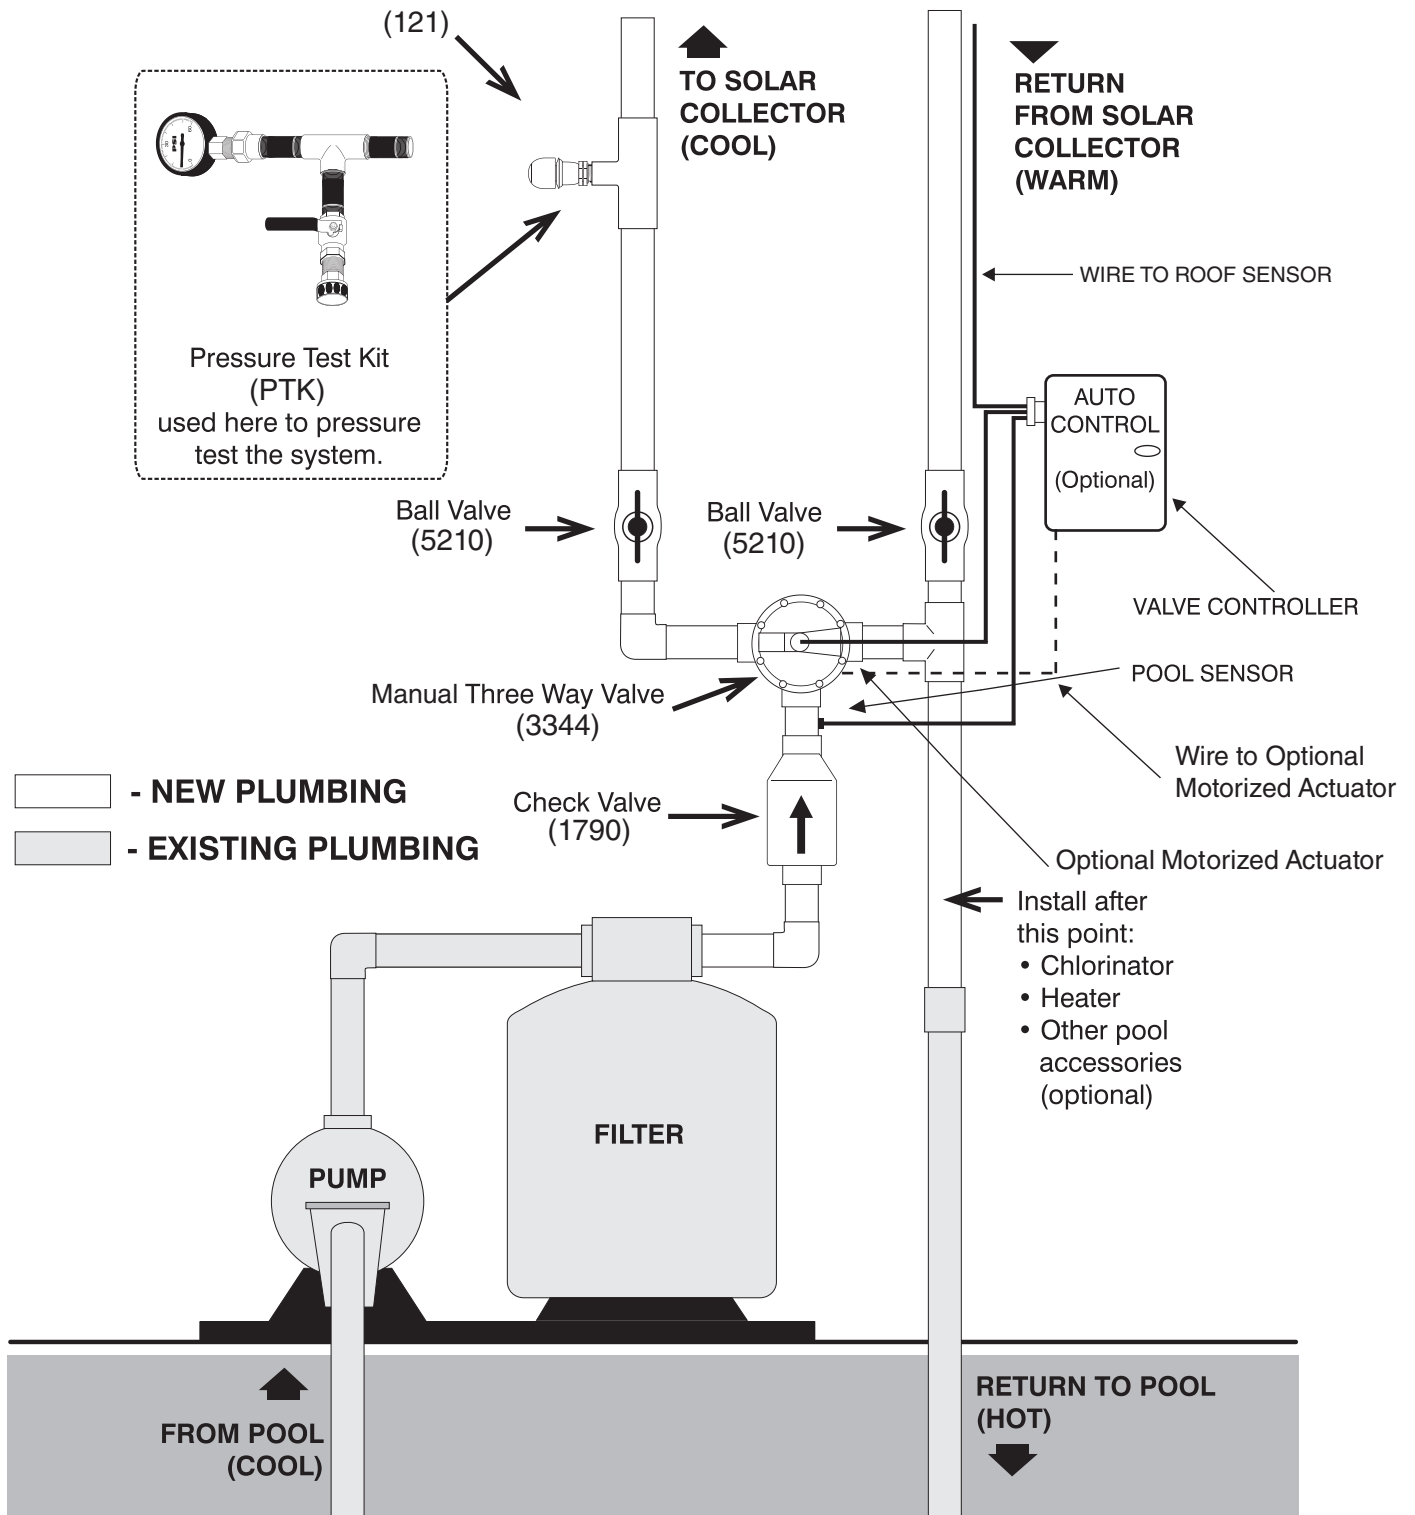

Fig. 15
2. Determine where the feed and return pipes will go over the edge of the roof. If possible, this should be perpendicular to the exact points where they will fasten into the existing system or into pipes coming from another location. (See Fig. 15, pg. 18)
Fig. 15 on page 18 shows how a typical Heliocol solar pool heating system is plumbed into existing pool plumbing. This drawing may not be just like every system you encounter. The feed and return plumbing on a solar system may be reversed, or it may have a different type of filter, or it may have additional equipment such as a chlorinator, pool cleaner, gas heater, etc. It may also have a long run of plumbing from the pool equipment to the solar collectors.
Whether the system is like this or not, Fig. 15 will help you understand the flow of water from the pool, through the pump, filter, solar system and back to the pool. Study the diagram and become familiar with the valves needed to connect the solar collectors to the existing plumbing.
1. Study the plumbing after the filter and decide where you are going to install the union check valve and the PVC tee fitting (See Fig. 15). If you have auxiliary equipment, you may need to re-plumb a portion of your existing plumbing so this equipment is located after the solar system as indicated in Fig. 15.
2. Cut the pipe after the filter where you have decided to locate the union check valve and where your solar return pipe will attach to your existing pool return line. If your pool plumbing is 1-1/2" and you are running 2" plumbing to your solar system, you should be using 2" valves and piping for all of your new plumbing, so you will need two (2) 2"x1-1/2" reducer bushings to adapt your new 2" fittings to the existing 1-1/2" pipe.
Locate vacuum breaker on the feed line as shown on page 18, Fig. 15, and put a solid end cap at the end of the top header where the vacuum relief was located.